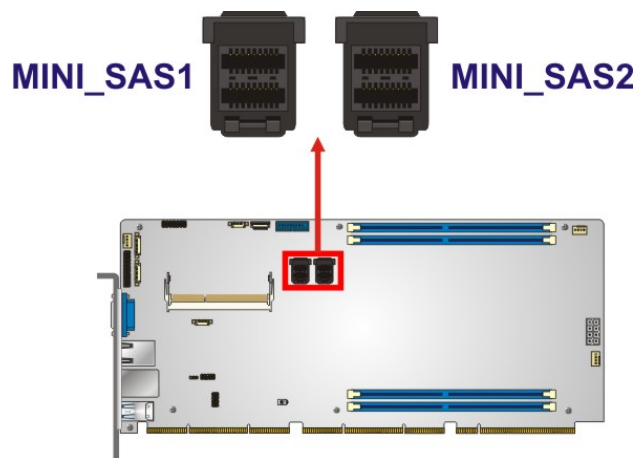

Figure 3-12: Mini-SAS Connector Locations
- CN Location:** See **Figure 3-12**